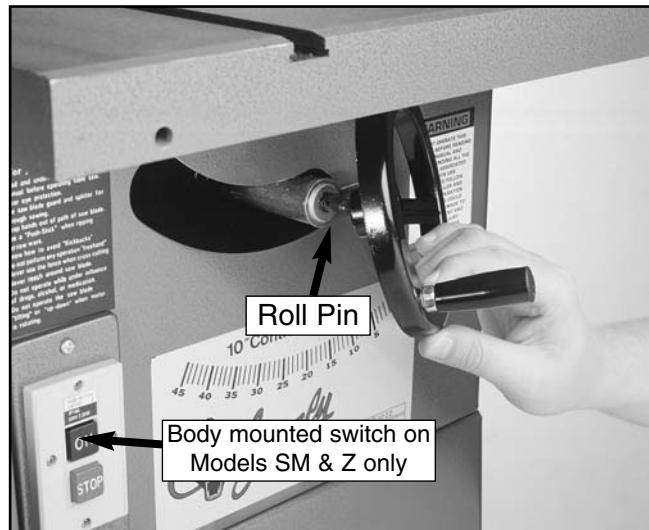

Figure 14. Mounting the handwheels.
2. The slots in the handwheel hole will engage with the roll pin on the shaft as shown in **Figure 14**.